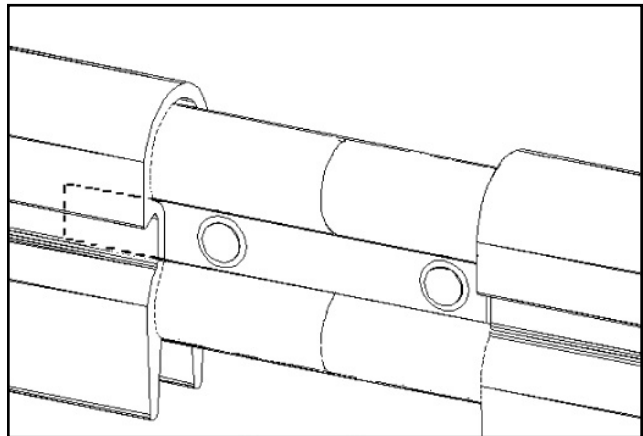

Figure 24-2
B. Push the pins into the holes of the bar. See **Figure 24-2**.